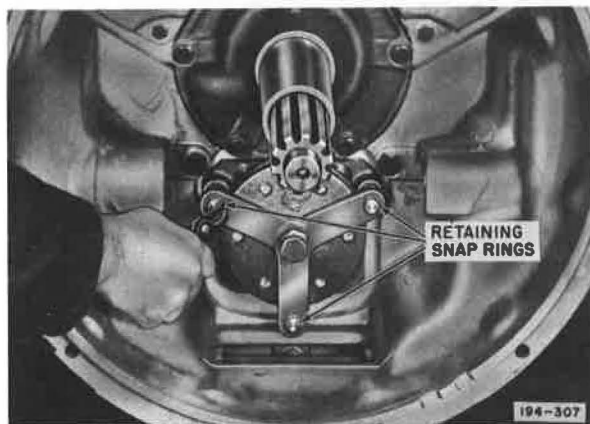
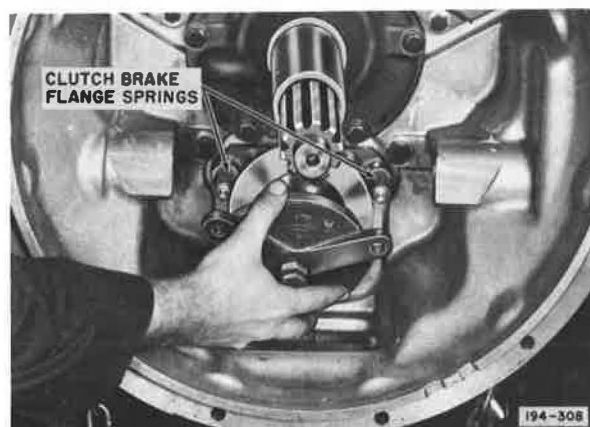

Figure 5-22. Removing Clutch Brake Pressure Plate Retaining Snap Rings
Figure 5-23. Removing Clutch Brake Pressure Plate
2. Remove clutch brake pressure plate snap rings as shown in Figure 5-22, then remove pressure plate and springs. See Figure 5-23.